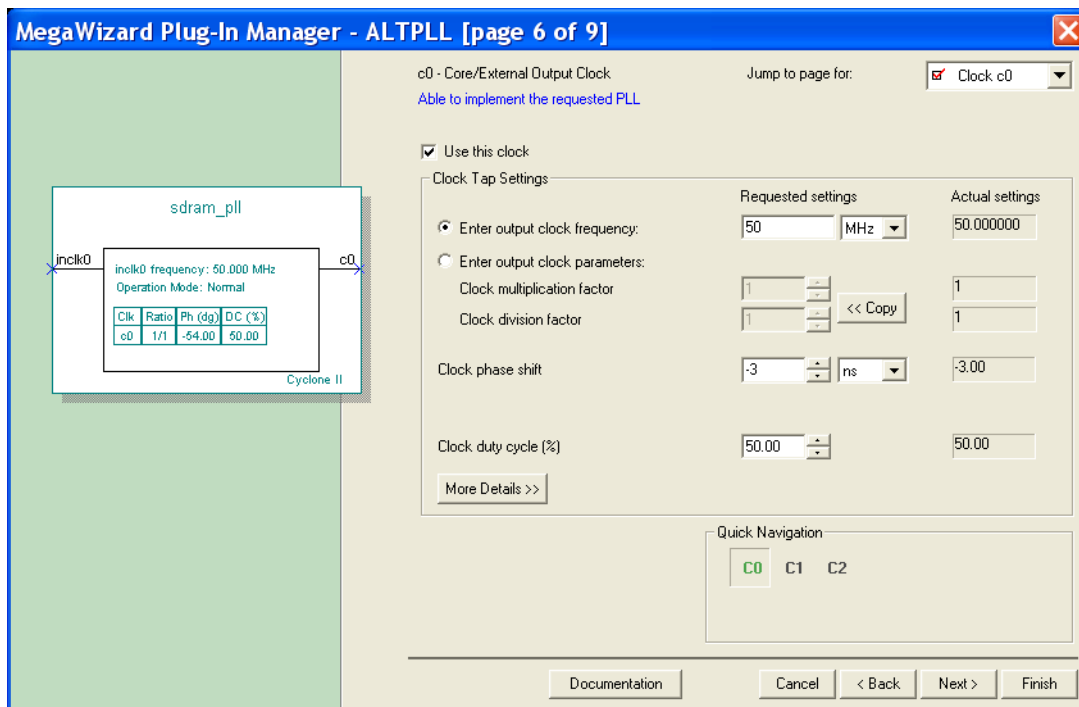

Figure 14. Specify the phase shift.
- We are interested only in the input signal *inclock0* and the output signal *c0*. Remove the other two signals shown in the block diagram in the figure by de-selecting the optional input *areset* as well as the locked output, as indicated in the figure. Click **Next** on this page as well as on page 5, until you reach page 6 which is shown in Figure 14.